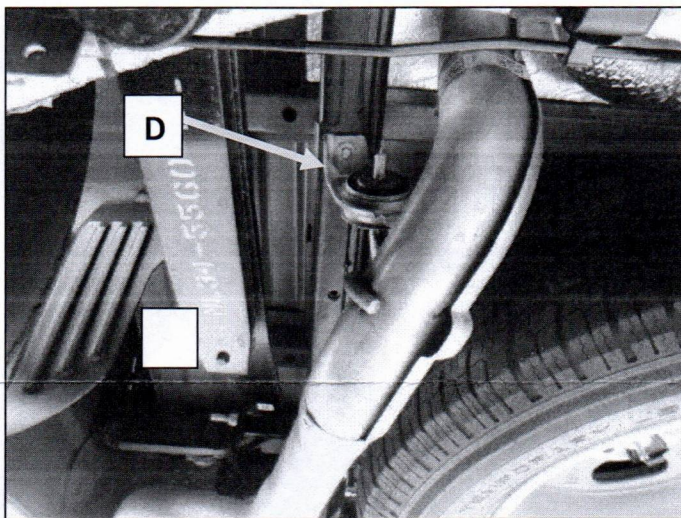

Figure 8
6. Install the right tailpipe frame hanger **(D)** on to the tailpipe hanger rod. Align the bolt holes to the clip nuts in the frame rail and install the bolts. **Fig.8**